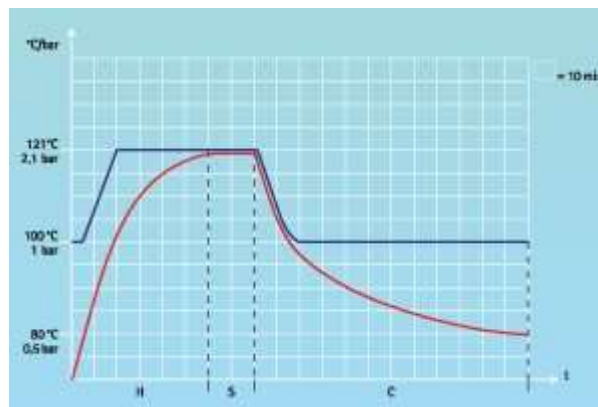

Figure 1 – sterilization process
- a. Heating stage and equilibration time (H).
- b. Sterilization stage, e.g. 121 °C for 20 minutes (S).
- c. Cooling stage to a safe temperature for removal (C).
- 3) The sterilization process is shown in Figure 1, the blue line shows the temperature inside the autoclave, the red line shows the temperature of the liquid.